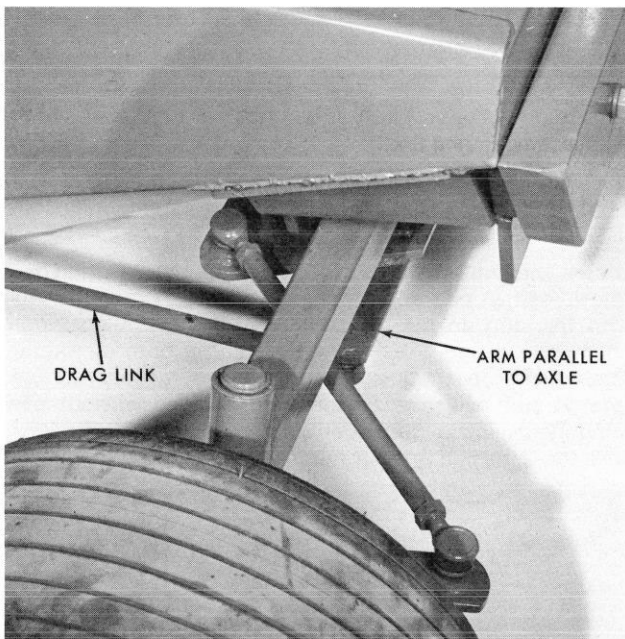

Figure 52
3. Position the rear wheels so the pivot arm is parallel to the rear axle as shown in Figure 52.